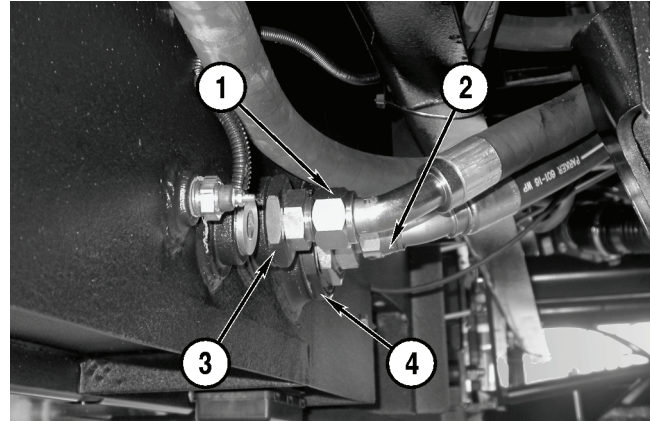

Figure 5-40
3. Remove the hydraulic fluid lines (**Figure 5-40, 1 and 2**).
4. Remove the strainers (**Figure 5-40, 3 and 4**).
6. Install the small diameter hydraulic fluid strainer (**Figure 5-40, 3**).
7. Install the large diameter hydraulic fluid strainer (**Figure 5-40, 4**).
8. Install the hydraulic lines (**Figure 5-40, 1 and 2**).